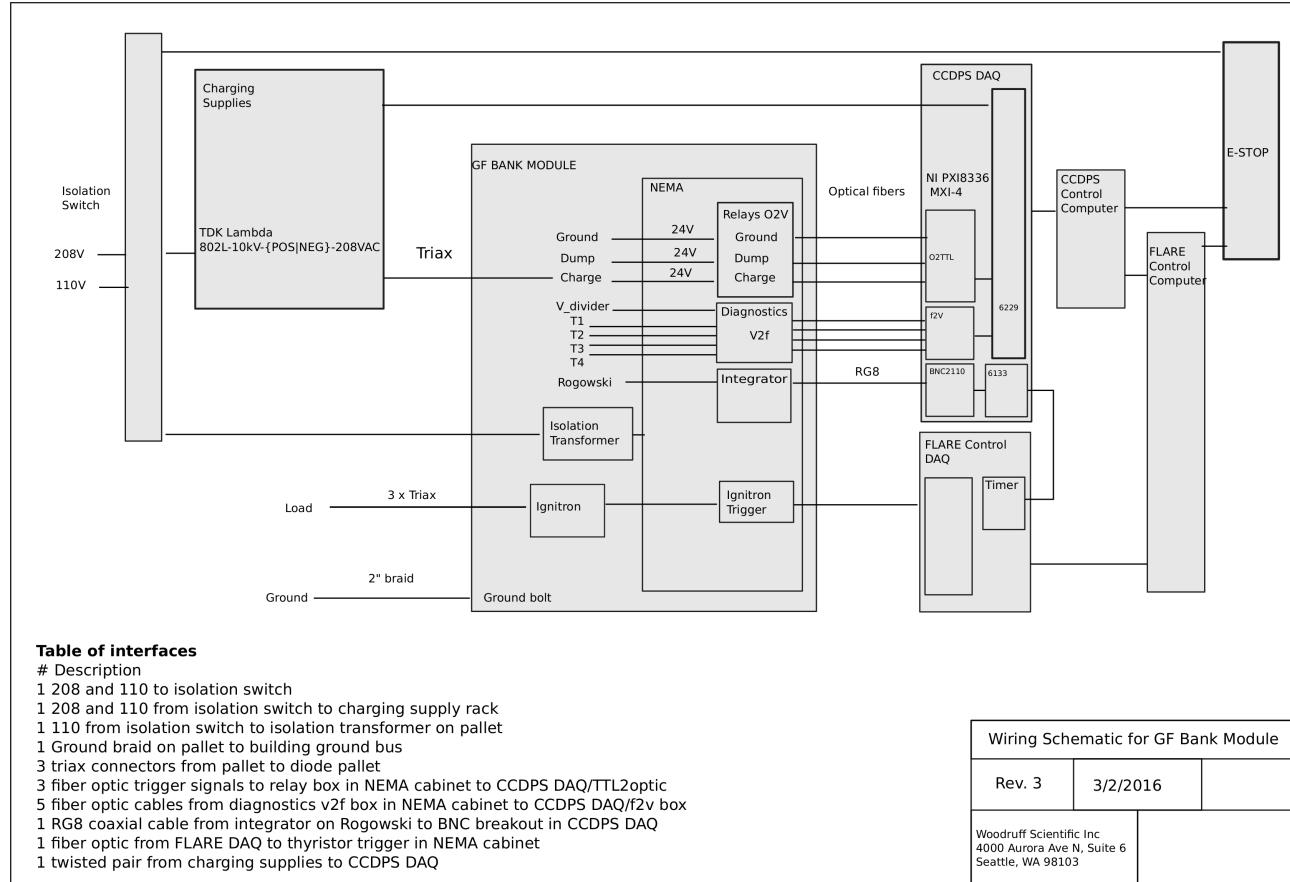
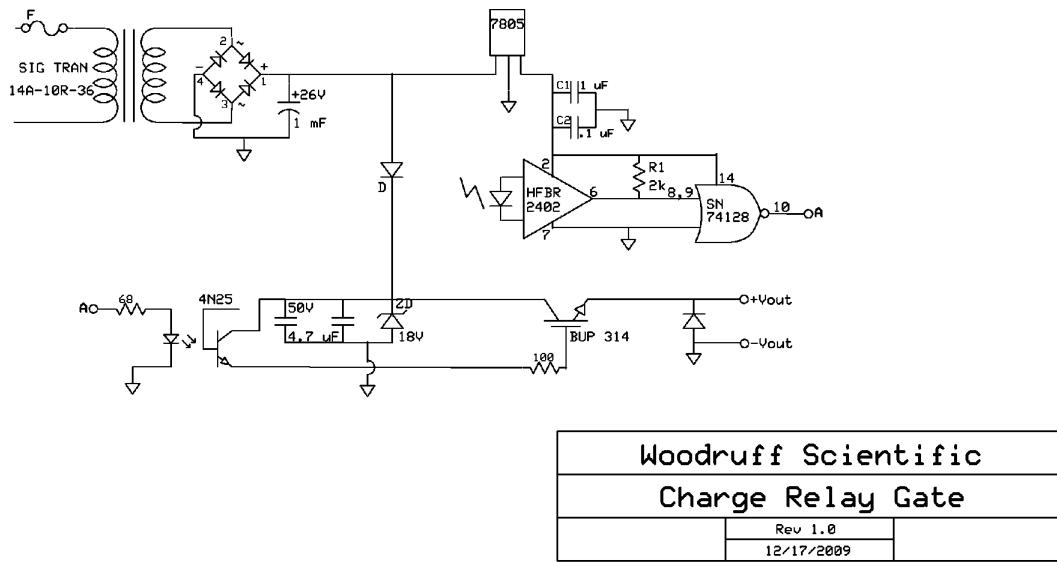

Figure 11: Connections
Figure 12: Schematic for charge, dump and ground relay control.
The connection schematic shows all of the connections that need to be made to the bank modules, power and control systems. From the left of Fig. 11, 208 and 110 power is fed to the bank enclosures via a Kirk key controlled isolation switch. This same switch can be energized by an Emergency Stop (E-stop) button located in the control room (this E-stop is digitized by both the FLARE control DAQ and the CCDPS control DAQ). If energized, the switch will drop all power to the enclosure, thereby killing power to the HV dump (normally closed) and charge (normally open) relays, and dumping bank energy into the cap dumps. The 110 and 208 power is delivered to the charging supply rack (located on its own separate pallet), and 110 is also delivered to an isolation transformer mounted on the bank module pallet. Connections to the load are made by multiple triax cables (described above). Water is connected to the ignitron switches along 1/4" tubes from a shared chiller unit. The charge, dump ground relays are controlled by individual fiber-optic-enabled switches, with pulse signals sent from the CCDPS DAQ rack (Schematic shown in Fig. 12). Temperature sensor data are transmitted by fiber-optics from the pallet to the DAQ after conversion of voltage to frequency, then reconverting at the DAQ. A BNC connection is made from the current sensor integrator to the DAQ fast data acquisition (sampling at at least 1MHz). Timing synchronization is provided by the FLARE control DAQ. Switch firing is controlled here by the FLARE control computer and DAQ, by
- Control signals needed as inputs: ESTOP and triggers (see Fig. 11)